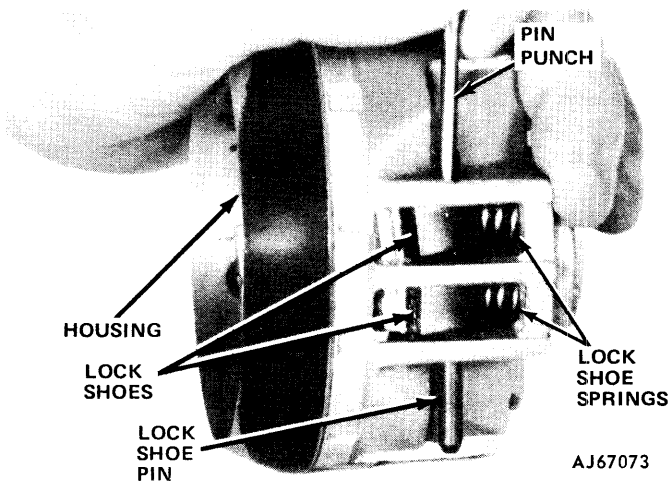

Fig. 11-36 Removing Lock Shoe Pin
(35) Remove lock shoe pin from housing using pin punch or Tool J-22635 (fig. 11-36) and remove lock shoes and lock shoe springs.
**NOTE:** When removing the lock shoe pin, compress the lock shoe springs to relieve spring tension on the pin (fig. 11-36).